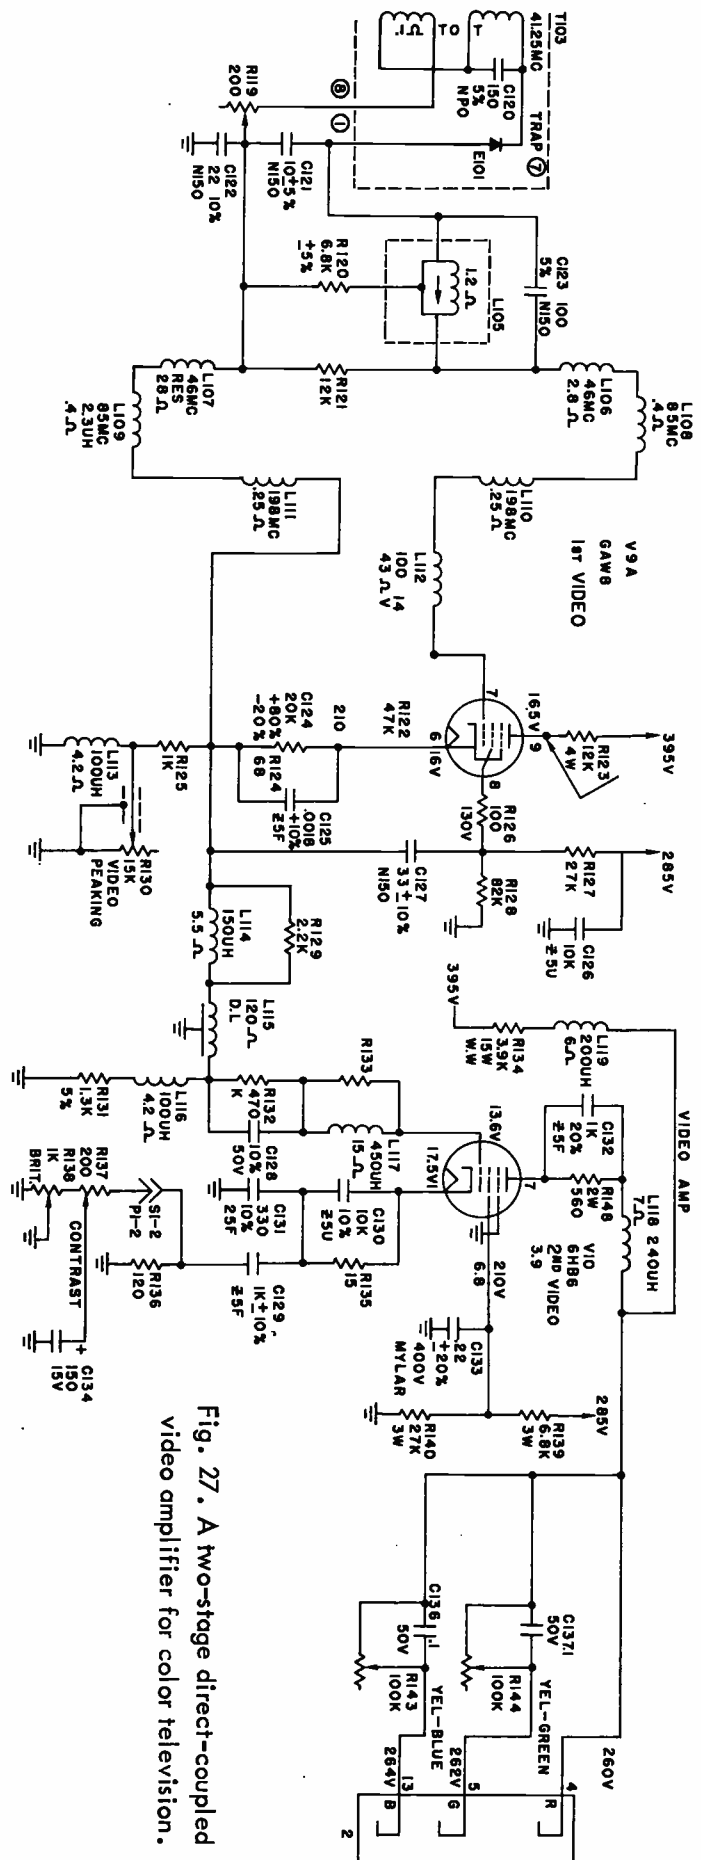

Fig. 27. A two-stage direct-coupled video amplifier for color television.
In the circuit shown in Fig. 27, the video detector is coupled directly to the first video amplifier. In the video amplifier a split load is used. Part of the load, R123, is in the plate circuit and part, R125, L113 and R130, are in the cathode. Notice that one side of the detector circuit is not grounded, but is fed to the junction of R124 and R125. Thus the stage is not degenerative, and there is gain developed across the cathode part of the load.
The video signal is taken from the cathode of the first video stage and fed through the combination of R129 and L114 to the delay line, through the line and then through the combinations of R132, C128, and R133 and L117 to the grid of the second video amplifier. From the plate of the second video amplifier, the signal is fed through the combination of C132 and R148, through L118 to the cathodes of the tri-color tube. Thus paths are provided for both the ac and the dc component of the video signal from the detector to the picture tube. The circuit of Fig. 27 has been simplified somewhat by removing the sync and color take-off points as well as blanking circuits.
- (x) Is the first video amplifier in Fig. 27 a cathode follower?